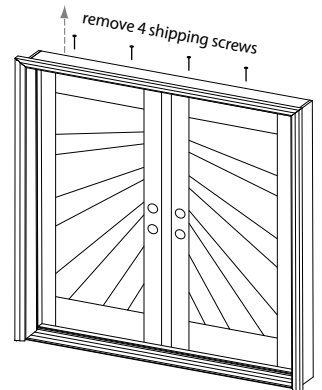

Figure 3
1. Remove door slabs from frame by removing 4 shipping screws from head jamb (figure 3) and either removal of the hinges themselves or the hinge pins. **DO NOT drag the door on floor right side up as the bottom sweep on the door will be damaged.**